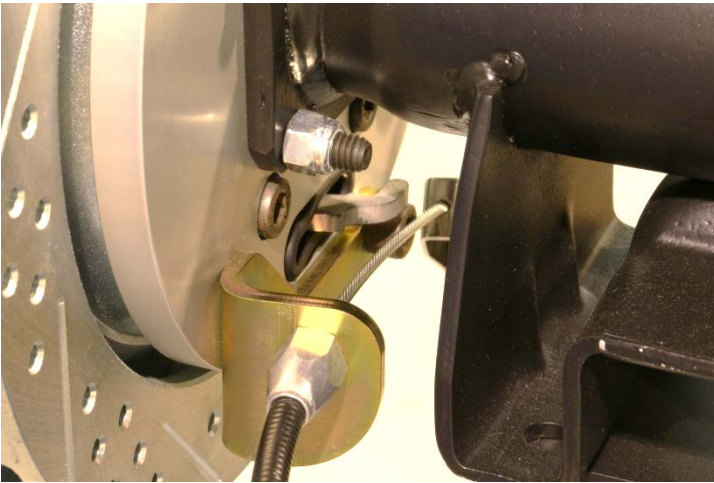

Figure 2 – Cable Being Installed
6. With the clevis end installed on the ball end of the wire, insert the wire into the cable housing. Once the majority of the wire has been fed through, attach the clevis to the hook on the park brake adjuster. See Figures 2 & 3 for references.